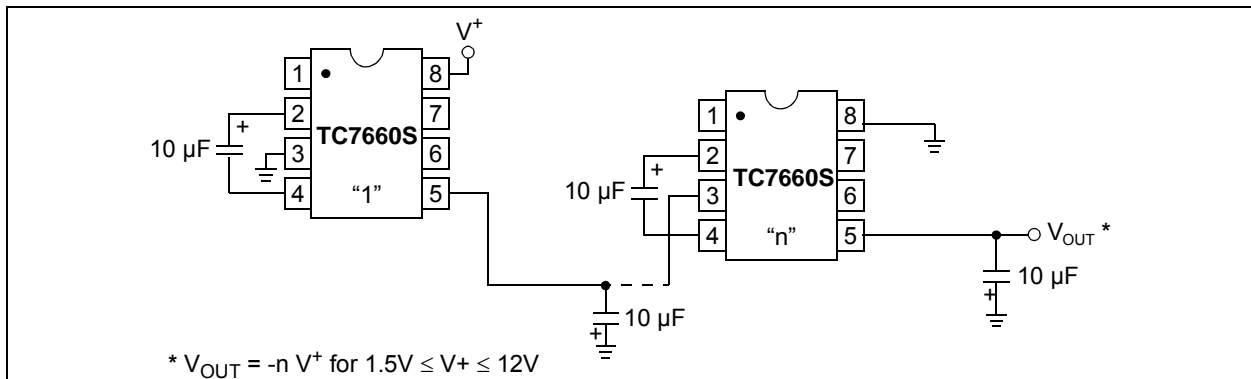

**FIGURE 5-1:** Simple Negative Converter.
Figure 5-1 shows typical connections to provide a negative supply where a positive supply is available. A similar scheme may be employed for supply voltages anywhere in the operating range of +1.5V to +12V, keeping in mind that pin 6 (LV) is tied to the supply negative (GND) only for supply voltages below 3.5V.
The output characteristics of the circuit in Figure 5-1 are those of a nearly ideal voltage source in series with a 70Ω resistor. Thus, for a load current of -10 mA and a supply voltage of +5V, the output voltage would be -4.3V.